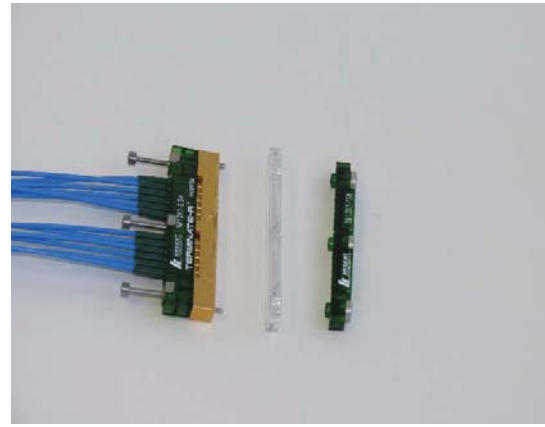

Figure 2: Protective Bottom Cover and Stiffener Block Removed from the TR Assembly
- Once all the M2 mounting screws are removed from the Stiffener Block, the protective Shipping Cover and the Stiffener Block will fall away from the assembly (See Figure 2).